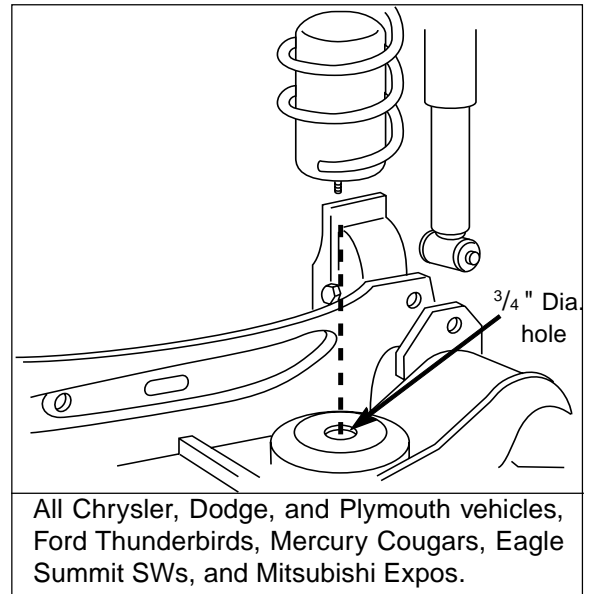

Figure 1
Multiple Applications – See special notes and Figures 1, 2 and 3 for your particular vehicle.
- (3) Stick the template on the underside of the lower spring seat with a dab of grease.
- (4) Centerpunch and drill  $\frac{3}{4}$ " diameter hole. Remove all burrs and sharp edges (Figure 1).
- (6) Insert air cylinder into coil spring with stem at bottom. Push the cylinder up within the coil by hand or with a blunt instrument such as a spoon-type tire iron.
- (7) When the cylinder is completely within the coil, remove the cap and allow the cylinder to assume its "as molded" shape. For Thunderbirds or Cougars skip to step (9), otherwise continue on to step (8)
- (8) For Chrysler, Dodge, or Plymouth: With the air cylinder stem down (Figure 1) install coil springs into spring seats and rotate to proper location. Attach lower shock absorber attaching bolts. Torque to 25 ft-lbs.
- (9) Continue with air line installation on pages 2-4.
- (1) Increase the diameter of the hole in the lower spring seat to  $\frac{3}{4}$ " diameter. Remove all burrs and sharp edges.
- (2) Insert air cylinder into coil spring with barbed stem towards the bottom. Push the cylinder up within the coil by hand or with a blunt instrument such as a spoon-type tire iron (Figure 1).
- (3) When the cylinder is completely with in the coil, remove the cap and allow the cylinder to assume its "as molded" shape.
- (4) Continue with air line installation on pages 2–4.
If the vehicle's headlights are shining into the trees or the vehicle is leaning to one side, then it is not level (fig. 1). Raise the air pressure to correct either of these problems and level the vehicle.